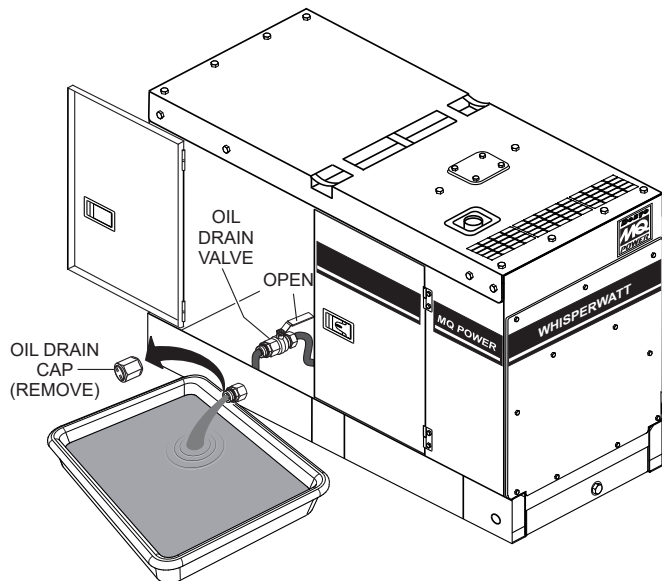

Figure 66. Draining Engine Oil
3. Remove the **oil drain cap** (Figure 66).